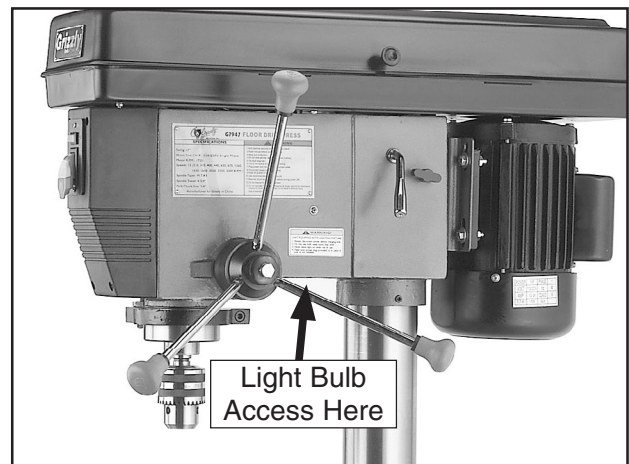

Figure 21. Light bulb access location.
2. Install a 60W or smaller light bulb in the location shown in **Figure 21**.